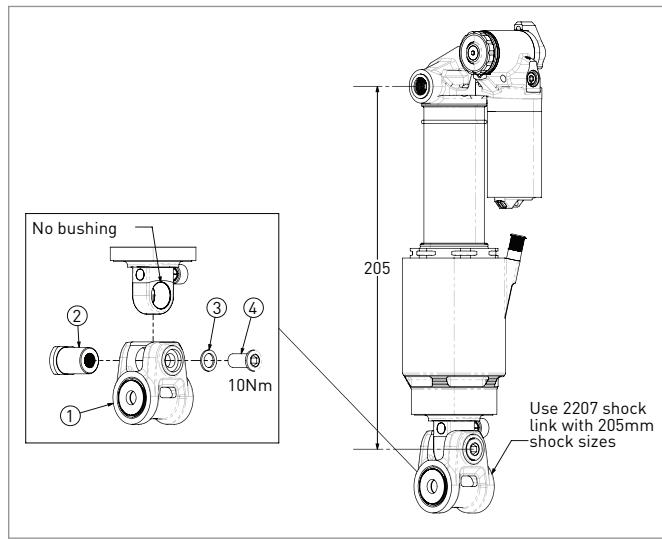

Figure 1
- 6. If the new or serviced rear shock is of a 205mm size, pre-assemble the 2207 shock link assembly to the rear shock (Fig. 1). Do NOT tighten to shock fixing bolt [4] yet, this is done after the assembly is fitted in the frame.
8. Install the new rear shock/ rear shock + link assembly into the frame, loosely threading first the upper two trunnion bolts and secondly the lower flip chip hardware. Once all the hardware is loosely threaded, tighten first the upper two trunnion bolts (torque to specification in 3768 instructions), then the lower flip chip pin (torque to specification in 3744 instruction) and lastly the shock link fixing bolt (4 of Fig. 1) to 10Nm (if present).